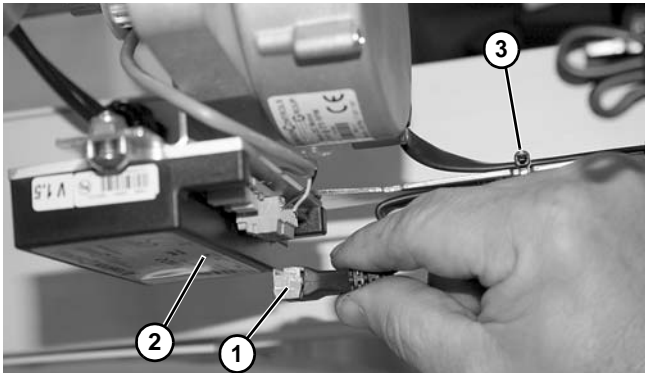

Figure 116
2. Remove motor plug (**Figure 116, item 1**) from drive control (**Figure 116, item 2**).
3. Remove tie straps (**Figure 116, item 3**) securing motor harness to bracket.